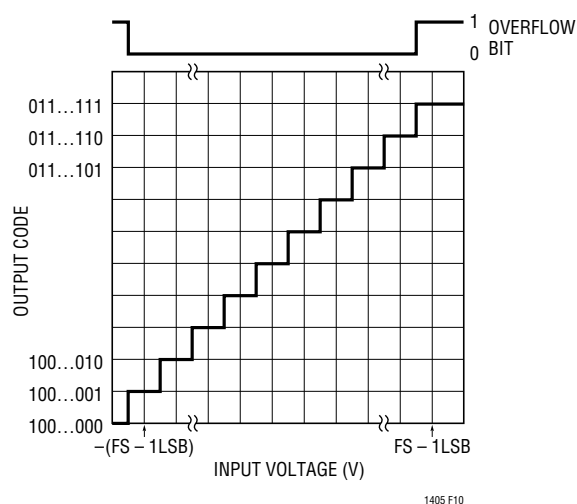

Figure 10. LTC1405 Transfer Characteristics
Figure 10 shows the ideal input/output characteristics for the LTC1405. The output data is two's complement binary for all input ranges and for both single and dual supply operation. One LSB = $V_{REF}/4.096$. To create a straight binary output, invert the MSB (D11). The overflow bit (OF) indicates when the analog input is outside the input range of the converter. OF is high when the output code is 1000 0000 or 0111 1111 1111.